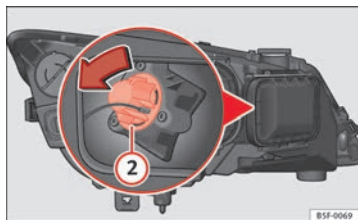

Fig. 137 Turn signal bulb
- Turn the bulb holder ⇒ Fig. 137 ② to the left and pull.